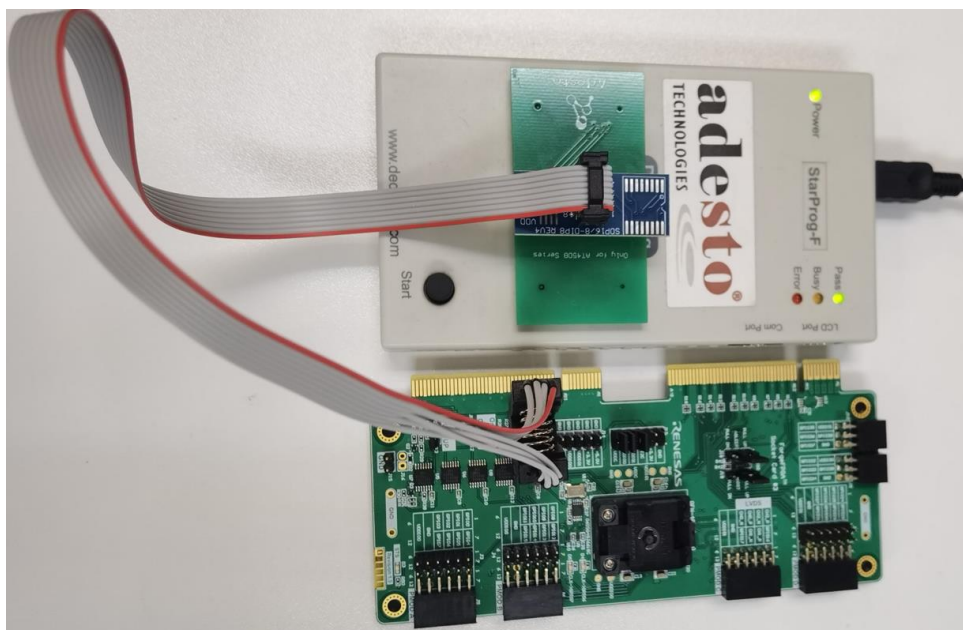

Figure 20. Connect the Flash Programmer to the Onboard Flash (Step 4)
1. Use a clamp to securely connect the Flash programmer to the onboard Flash memory. Ensure all contacts are properly aligned, and the connection is stable (see Figure 20).
Note: The red wire in this clamp indicates Flash chip Pin 1. Figure 20 shows the connection with Socket Card #3. The connection for Socket Card #1 and all ForgeFPGA socket cards is identical.